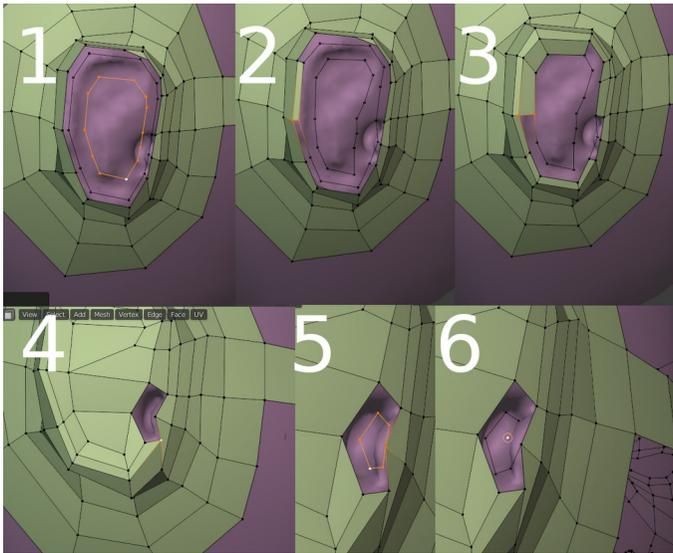

Figure 7-11 Filling in the ear
In Figure 7-11 stage 1 you can see that filling in the ear with edges along the ridges and grooves runs into a problem where there is a relatively featureless area in the center but there needs to be more detail, and a hole, at one side. If concentric loops continue to be added they will become far too congested below and to the right of the ear hole. Rather than using bridging edge loops, you can add quads and edges one at a time using **Vertex ▶ New Edge/Face from Vertices**, or in practice, the shortcut F.
14. Figure 7-11 stage 1 shows the stage where two loops have been duplicated and scaled down but not yet bridged because they have started to overlap the ear hole.
15. To create a single quad select four vertices or, more easily, two unconnected edges opposite each other, and press F. You can see the new quad formed in Figure 7-11 stage 2.
16. Select one of the sides of the newly created quad which is facing down a “track” of unconnected edges. In Figure 7-11 stage 2 you can see the edge I have selected. Now press F and, not only will a new quad appear, but the next edge down the track is automatically selected so you can press F repeatedly to fill in a strip of quads. This is actually a very fast and controllable way to build the mesh.
17. In Figure 7-11 stage 3 the circumferential quads are being filled as far as the awkward area in the bottom right. In stage 4 the flat area on the left was chosen to have an even number of edges around it, which are now filled in. The hole on the right, also has an even number of edges.
18. Figure 7-11 stage 5 shows what sometimes happens with automatic merging in confined spaces. One of the vertices from the duplicated edge loops forming the bottom of the ear hole has snapped to merge with a vertex on the loop outside it. Don’t